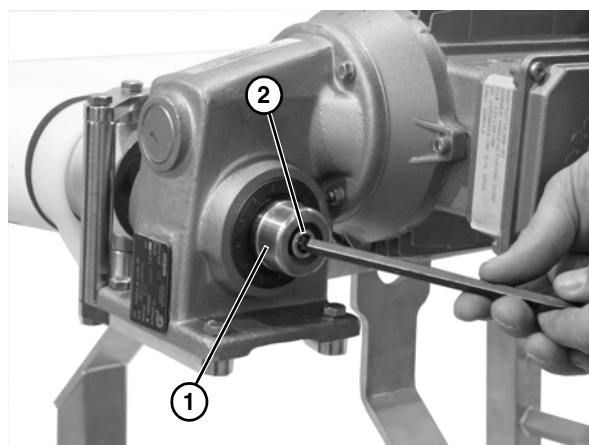

Figure 7
5. Attach the bore plug (**Figure 7, item 1**) and tighten the socket head screw (**Figure 7, item 2**). Snap cover onto bore plug (**Figure 7, item 1**).